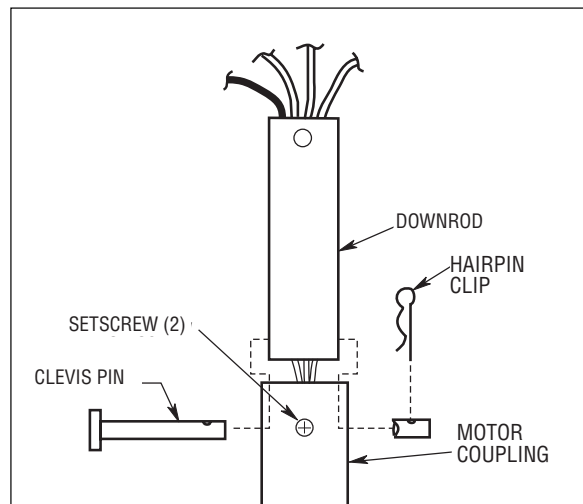

Figure 4
3. Loosen setscrews in motor coupling. Separate, untwist and unkink the four 80" motor leads. Route the motor lead wires through the downrod. Insert the downrod into the motor coupling. Align the clevis pin holes in the downrod with the holes in the motor coupling. Install the clevis pin and secure with the hairpin clip (Figure 4). The clevis pin must go through the holes in the motor coupling and the holes in the downrod. Be sure to push the straight leg of the hairpin clip through the hole near the end of the clevis pin until the curved portion of the hairpin clip snaps around the clevis pin. The hairpin clip must be properly installed to prevent the clevis pin from working loose. Pull on the downrod to make sure the clevis pin is properly installed.
4. While pulling up on the downrod, securely tighten the two setscrews in the motor coupling (Figure 4).